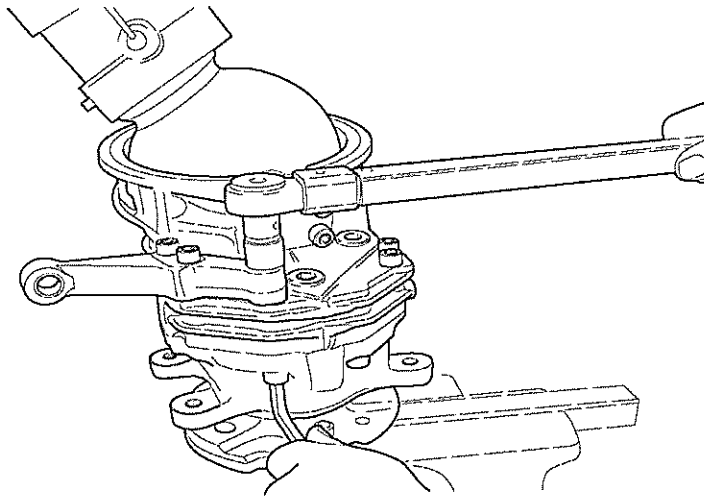

Fig 9 Removing steering track arm
- 8.18 Remove two socket head bolts and nut securing track arm. Refit arm, bolts and nut to new portal hub and tighten to correct torque (see Table 2, Ser 13 and Fig 9).